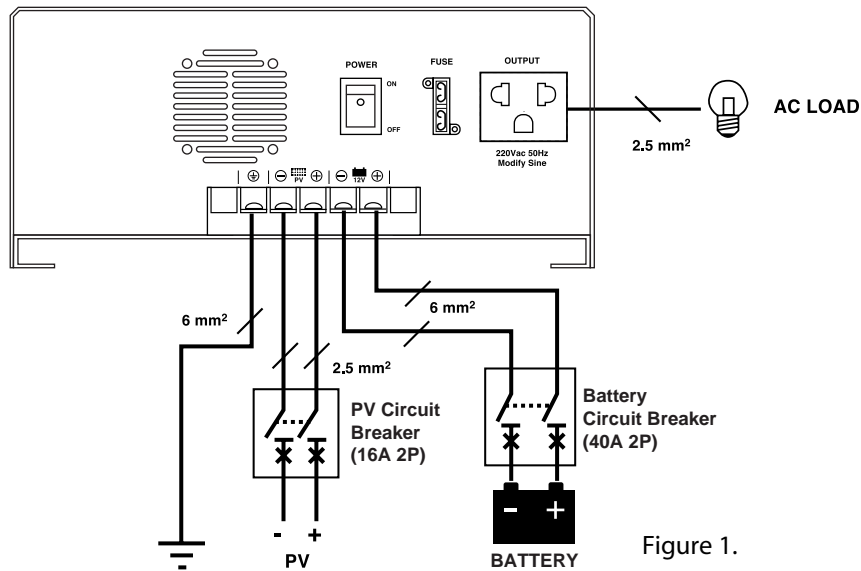

Figure 1.
- 4.1.2 Connect grounding wire at the PE/EARTH (  ) position by using copper wire sizing in Figure 1.